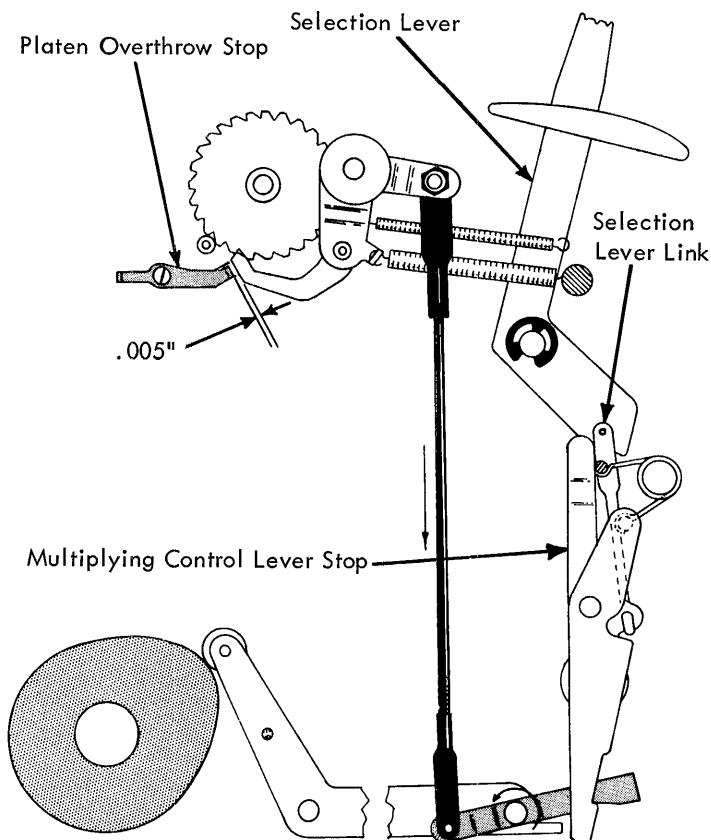

FIGURE 225. Index Travel Adjustment
- a. As a preliminary setting, position the multiplying control lever stop front to rear so that its elongated hole is centered (Fig. 225). The adjustment provides an average leverage ratio for the multiplying lever. Subsequent adjustments may require that the front to rear position be changed slightly.
- c. Adjust the multiplying control lever stop front to rear so that two full teeth of motion is given the index pawl after it starts to drive the platen (Fig. 225).
5. Platen Overthrow Stop - Adjust the stop forward or back so that .005" clearance exists between the stop and the pawl when the cam is on its high point (Fig. 225).
6. Index Selection Lever - Adjust the index selection lever link so that the lever lines up with the double mark on the case when the lever is in the double line space position (Fig. 225).